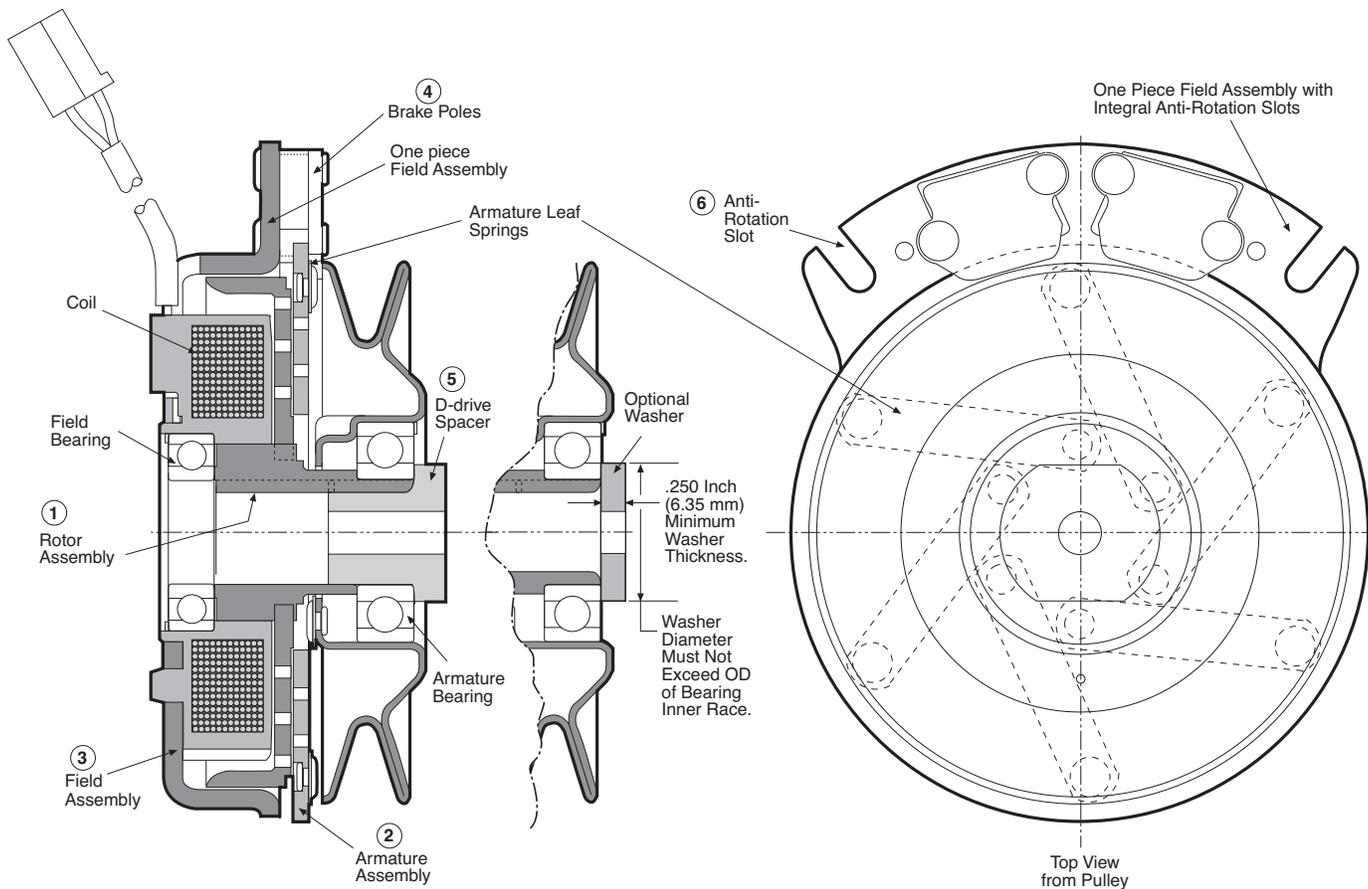
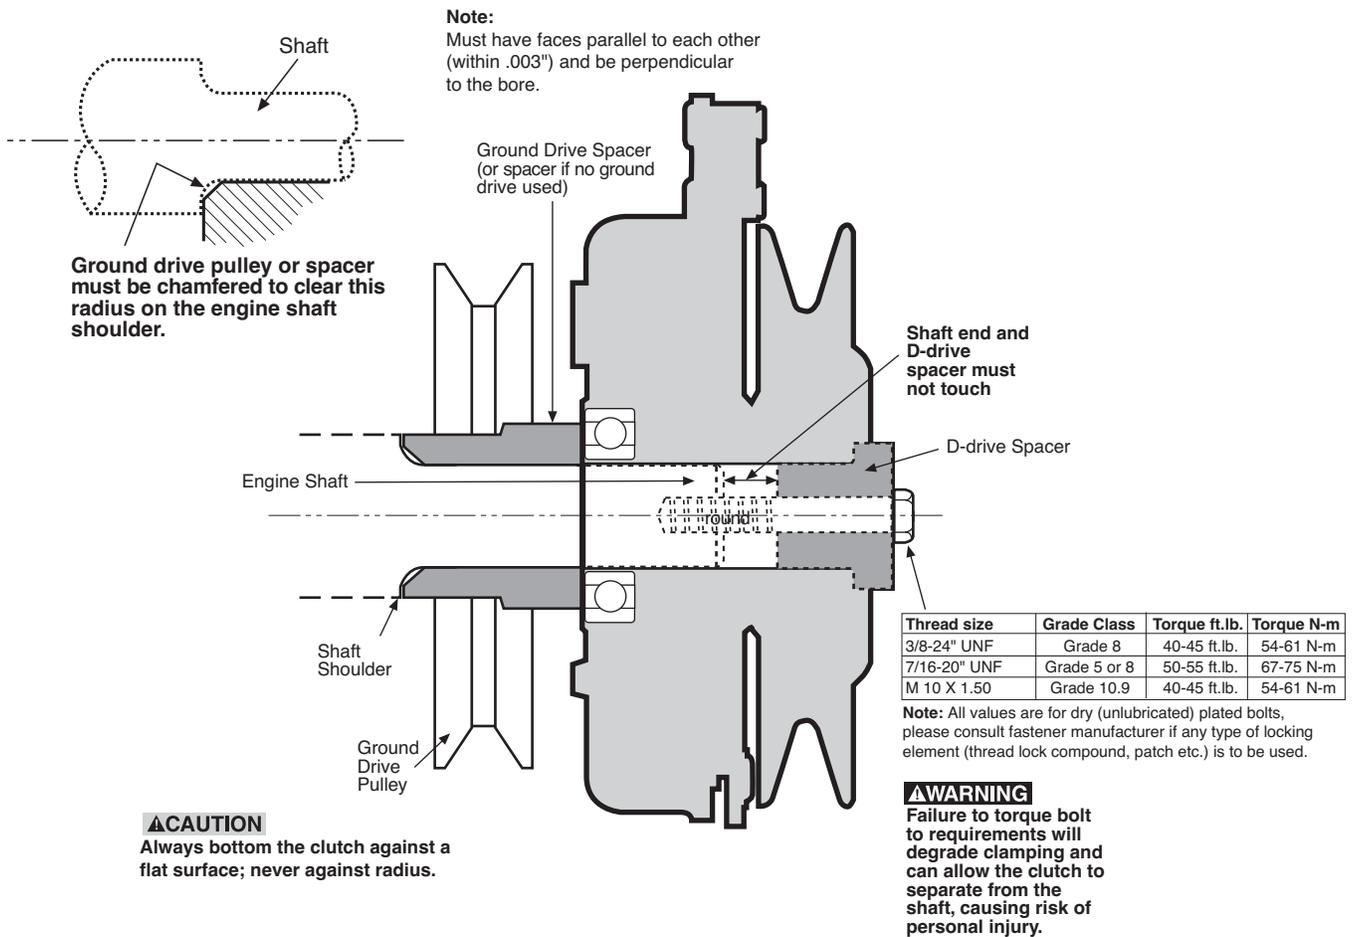

Figure 1
Figure 3
**Components:** (See Figure 1 on page 5.)
| Failed bearing                                  | <ul style="list-style-type: none"><li>• Loose mounting (bolt not torqued properly)</li><li>• Field assembly movement restricted</li></ul>  | <ul style="list-style-type: none"><li>• Replace (see Mounting Figure 3, page 7)</li><li>• Confirm proper Anti-rotation (see Anti-rotation, Figure 4, page 7)</li></ul>  |
| Clutch loose on shaft                           | <ul style="list-style-type: none"><li>• Loose mounting (bolt not torqued properly)</li><li>• Mounting bolt too long and bottoms in engine shaft before clamping clutch</li><li>• Mounting washer too thin and deforms when bolt is tightened.</li><li>• Shaft bottoms on D-drive</li></ul> | <ul style="list-style-type: none"><li>• Tighten mounting bolt to specification. See Mounting, Figure 3. page 7.</li><li>• Use correct length bolt (see Mounting page 7, Figure 3)</li><li>• See Figure 1 and Warning on page 5.</li><li>• Use proper spacer (see Mounting page 7)</li></ul> |
| Clutch not mounted square                       | <ul style="list-style-type: none"><li>• Ground Drive Spacer mounting shoulder not squared. See Mounting Figure 3.</li><li>• Clutch integral key hitting end of keyway in engine shaft</li><li>• Incorrect or no chamfer on ground drive spacer.</li></ul>                                  | <ul style="list-style-type: none"><li>• Replace</li><li>• Space clutch away from radius in shaft keyway.</li><li>• Increase chamfer on ground drive spacer. See Caution, Figure 3, page 7.</li></ul>  |